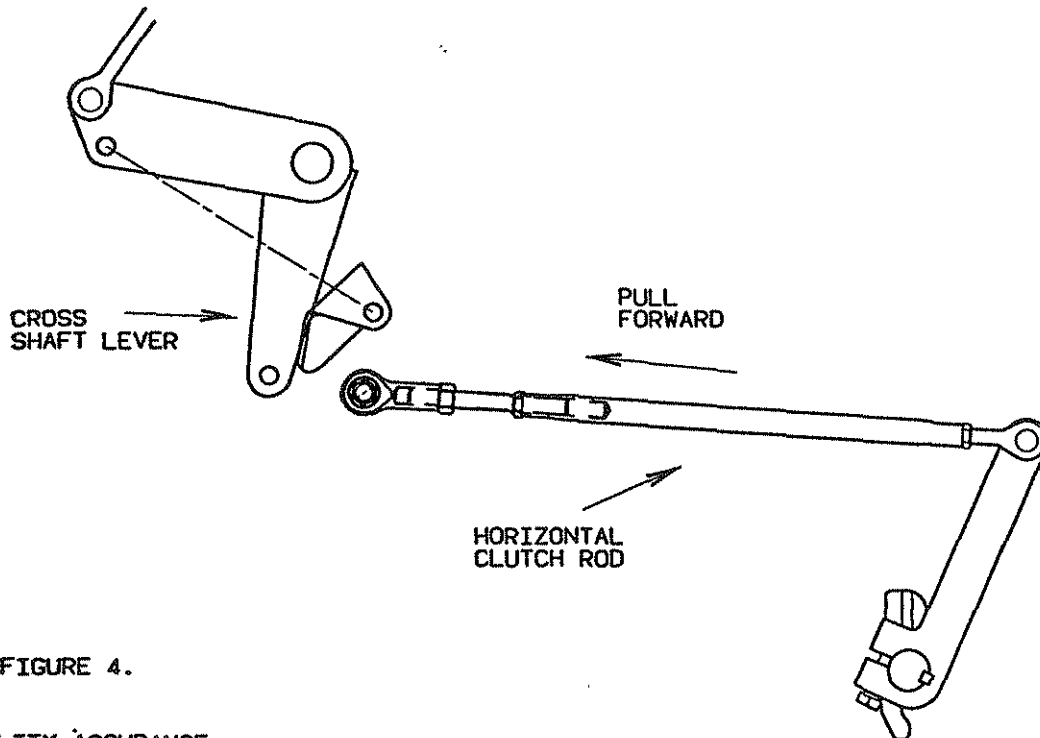

FIGURE 4.
- 3.1 PULL THE CLUTCH ROD FORWARD (ADJUSTABLE END) UNTIL IT STOPS WITHOUT APPLYING EXCESSIVE FORCE (FIGURE 4).